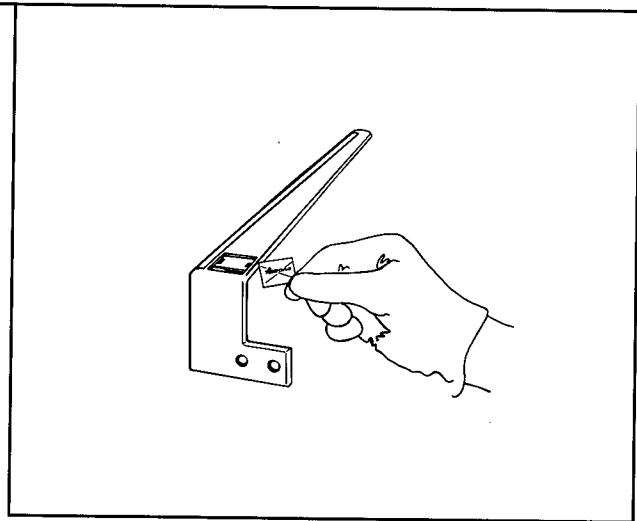

Figure 45
- a. Using a taped small screwdriver, pry off cover located behind nameplate. See Figure 45.